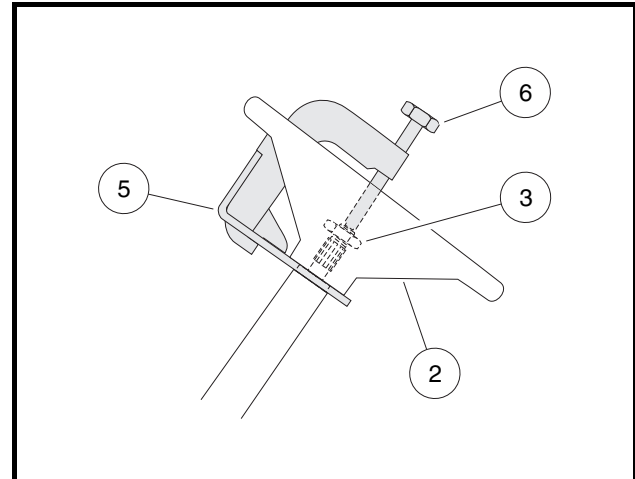

Figure 7-2 Steering Wheel Puller
- 5.3. Rotate the anvil screw (6) clockwise until the base plate contacts the bottom of the steering wheel where it attaches to the steering column (**Figure 7-2, Page 7-2**).